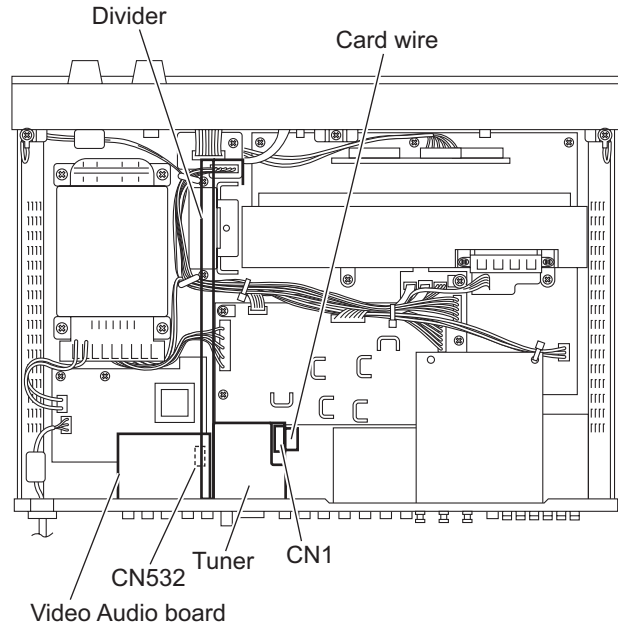

Fig.7
3.4 Removing the tuner (See Figs.7 and 8)
- From the top side of the main body, disconnect the card wire from the connector CN1 on the tuner. (See Fig.7.)
3.5 Removing the video/audio board (See Figs.7 and 8)
- From the top side of the main body, take out the video/audio board from the main body and disconnect the card wire from the connector CN532 on the forward side of the video/audio board. (See Fig.7.)
Remove the divider as required. (See Fig.7.)